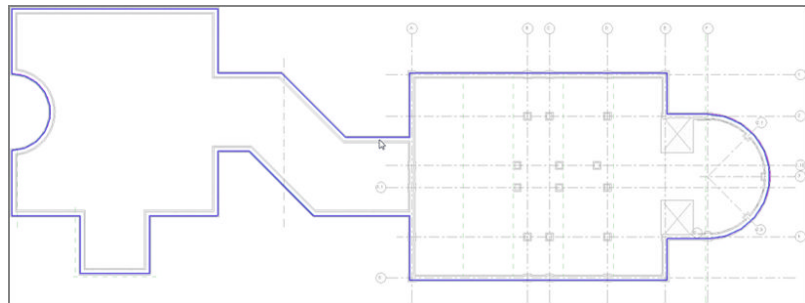

FIGURE 18.20: Place the pad 1" (25mm) to the outside of the wall.
10. Set Offset to 1" (25mm) on the Options bar, and pick walls to place the pad against the outside of the foundation wall underneath the entire model, as shown in Figure 18.20. Trim the sketch lines as necessary.